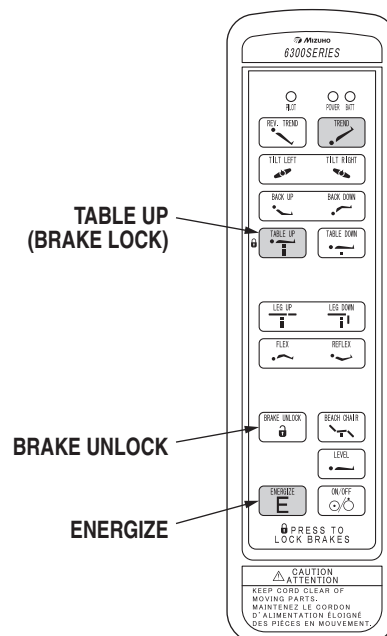

Figure 2-7. Brake System Activation
- a. **Floor Lock/Brake System** To activate the brakes without affecting table positioning, press the ENERGIZE button and then the TABLE UP button. See figure 2-7. The elevation cylinder will not function until the brakes are completely extended.
Press the ENERGIZE button and then the BRAKE UNLOCK button on the pendant control to release the four self-leveling brake feet in order to move the table. See figure 2-7. The brake delay circuit automatically retracts the brake system. It takes approximately 7-8 seconds to totally release the system.